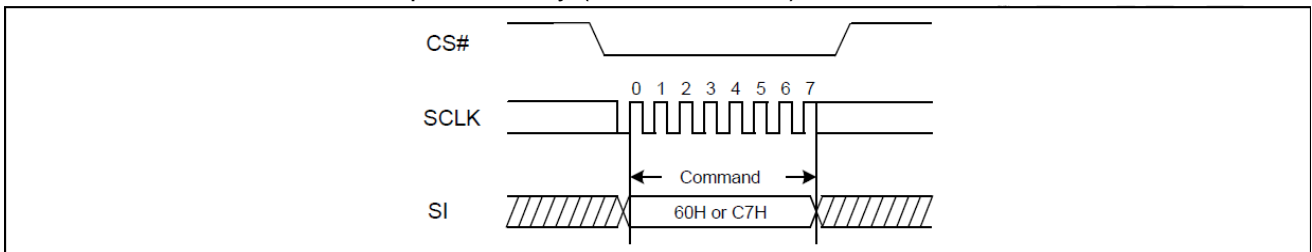

Figure10. Chip Erase Sequence Diagram
The Chip Erase command sequence: CS# goes low send Chip Erase command CS# goes high. The command sequence is shown in Figure10. CS# must be driven high after the eighth bit of the command code has been latched in, otherwise the Chip Erase command is not executed. As soon as CS# is driven high, the self-timed Chip Erase cycle (whose duration is  $t_{CE}$ ) is initiated. While the Chip Erase cycle is in progress, the Status Register may be read to check the value of the Write In Progress (WIP) bit. The Write In Progress (WIP) bit is 1 during the self-timed Chip Erase cycle, and is 0 when it is completed. Write Enable Latch (WEL) bit is reset to 0 at the end of the Chip Erase cycle. The Chip Erase (CE) command is ignored if one or more sectors are protected by (BP2, BP1, BP0) bits.